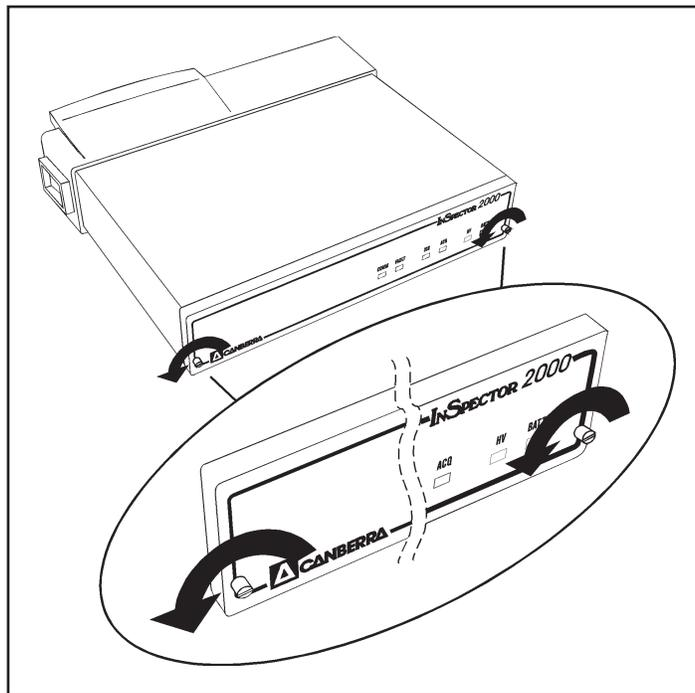

Figure 46 Removal of the Front Panel
1. Remove the InSpector 2000 front panel assembly, turn the front panel thumb screws counter clockwise to remove the front panel, see Figures 46 and 47. The screws are installed finger tight and should turn easily without the requirement for tools. Its best to remove both screws simultaneously, set the front panel aside.